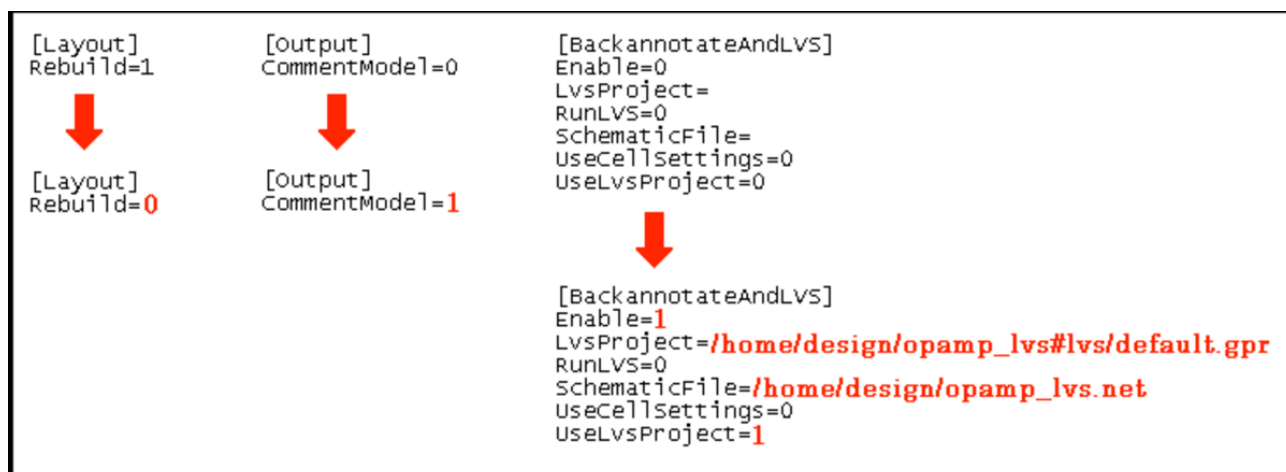

Figure 4. Modification of opamp.lpe file.
**7-3:** Modification of the LPE setting file (.lpe or .epo file) (See Figure4)